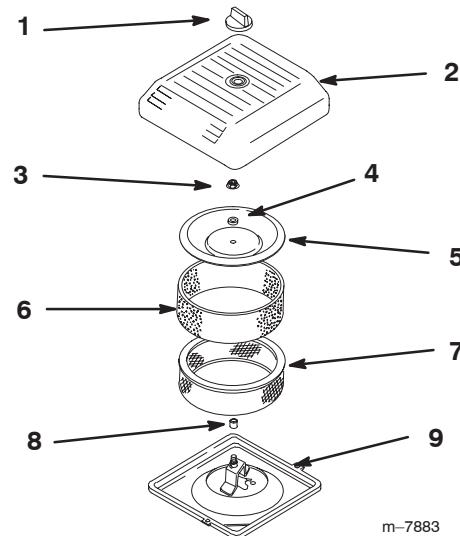

Figure 29
4. Unscrew the knob and remove the air cleaner cover (Fig. 29).
5. Carefully slide the foam pre-filter off of the paper element (Fig. 29).
6. Unscrew the cover nut and remove the cover, spacer and paper filter (Fig. 29).
- Carefully slide the foam pre-filter onto the paper filter (Fig. 29).
- Place the air cleaner assembly onto the air cleaner base (Fig. 29).
- Install the cover, spacer and secure it with the cover nut (Fig. 29). Torque the nut to 95 in-lb (11 N·m).
- Install the air cleaner cover and secure with the knob (Fig. 29).